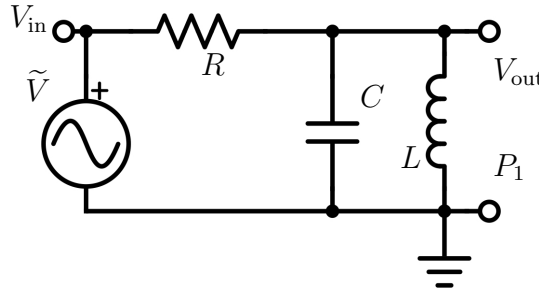
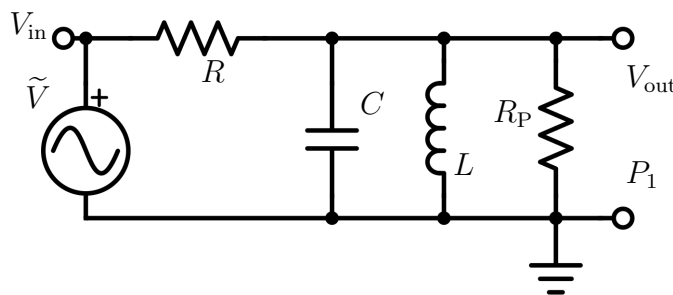

Figure 5: Circuit diagram for an RLC band-pass filter, with Q -spoiling resistor R_2 .
Figure 7: Circuit diagram for an RLC band-pass filter, with Q -spoiling parasitic parallel resistance R_P .
- 2) Using the formula derived in lecture, calculate the resonant angular frequency ω_0 and resonant frequency f_0 of the resonant circuit in Fig. 5. *A very common mistake is to mixup frequency and angular frequency in the lab.*
- 3) Using the formula derived in lecture, calculate the Q -factor for the resonant circuit in Fig. 5.
Build the circuit in Fig. 5 using $R = 1 \text{ k}\Omega$, $C = 4.7 \text{ }\mu\text{F}$, and $L = 150 \text{ }\mu\text{H}$. Set the frequency of the function generator to $f_0 = \omega_0/2\pi$ and the peak-to-peak voltage 10 V.
The Q -factor that you measured in the previous section is significantly lower than the theoretical Q -factor for the circuit in Fig. 5. In fact, the inductor is non-ideal in a number of ways. In this case, there is a parasitic parallel resistance that makes the circuit effectively that of Fig. 7. The resistance R_P is already present (unfortunately!) in your circuit.